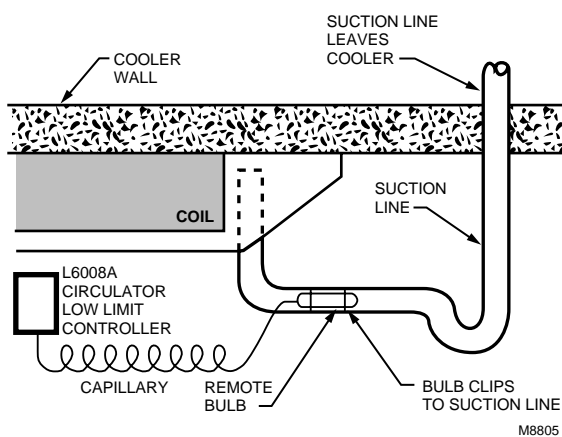

Fig. 17. Attaching remote bulb to horizontal suction line.
4. Attach the sensing bulb to the suction line with clips or straps. See Fig. 17.